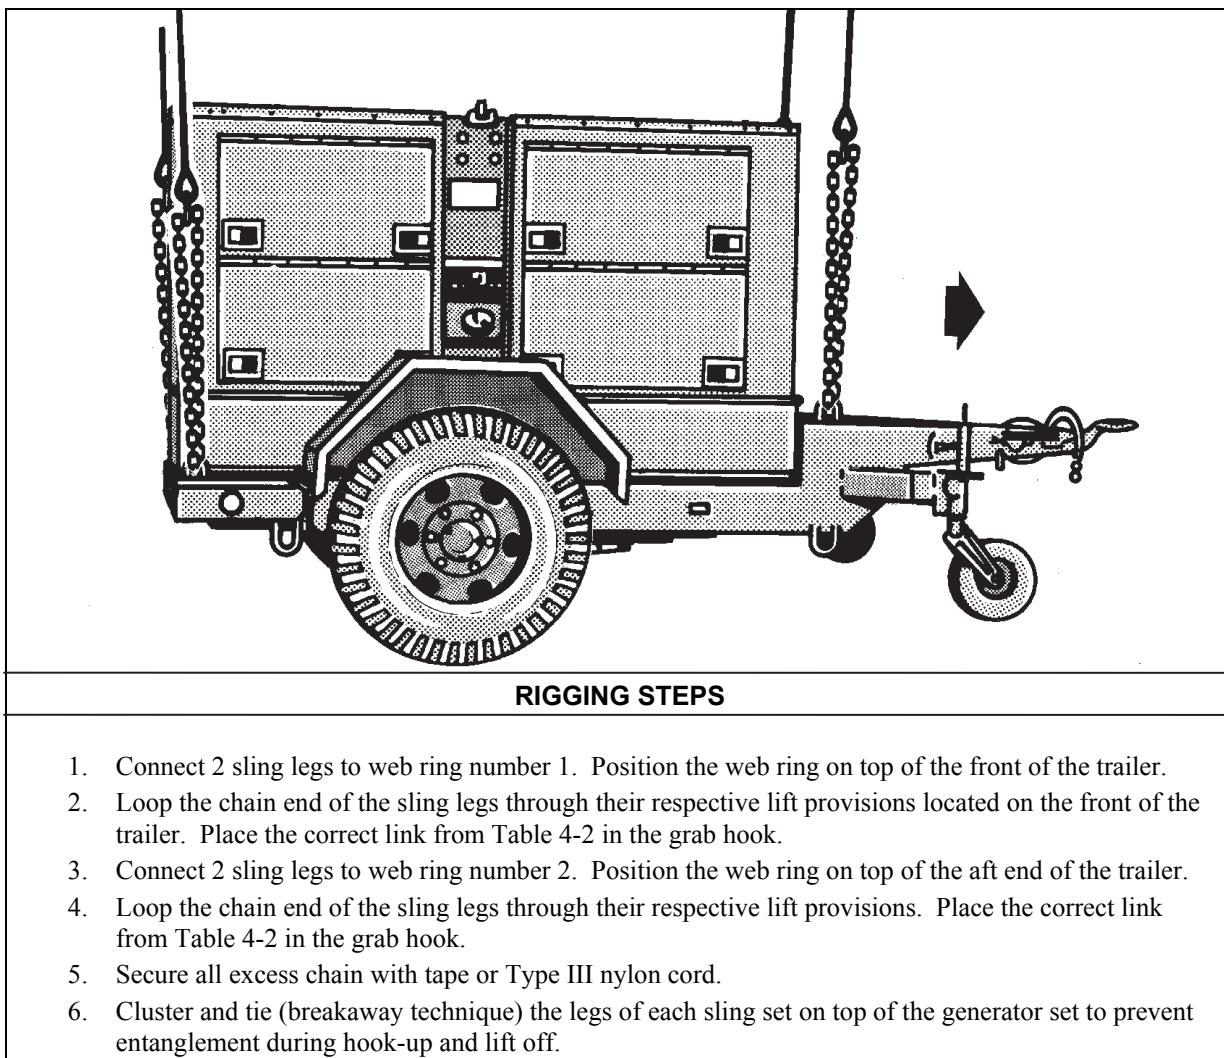

Figure 4-2. M353 Trailer Chassis with Mounted Generators
- **Rigging.** Rig the load according to the steps in Figure 4-2.